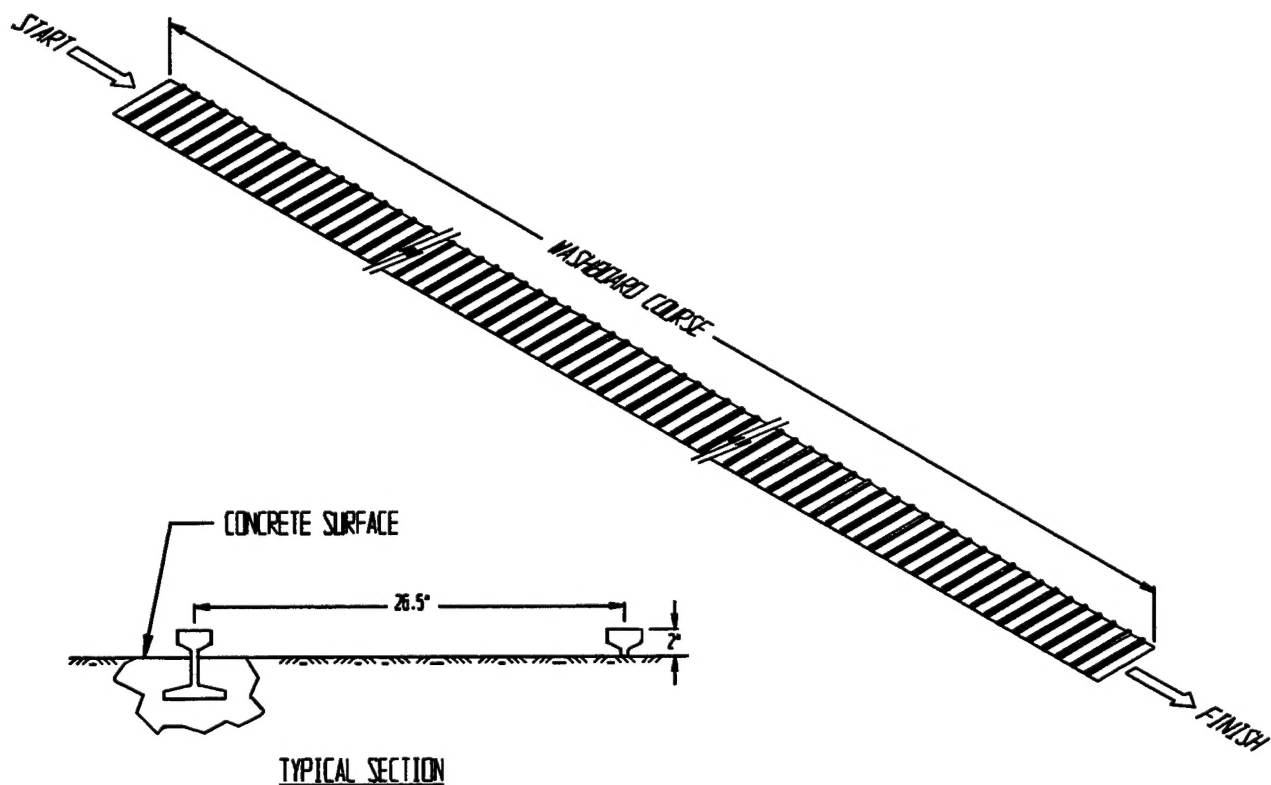

FIGURE 2
C. WASHBOARD COURSE. Using a suitable truck/tractor, and/or tactical vehicle, the specimen was towed/driven over the washboard course at a speed which produced the most violent response in the particular test load (see Figure 2).